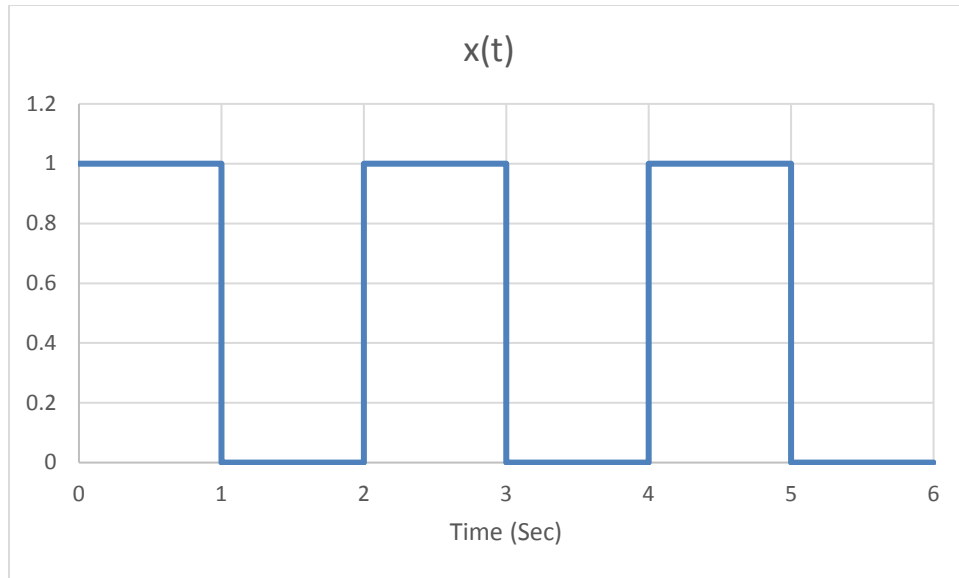

Figure 2 - Plot of x(t)
3. Figure 2 shows a plot of $x(t)$. Sketch the integral of $x(t)$.